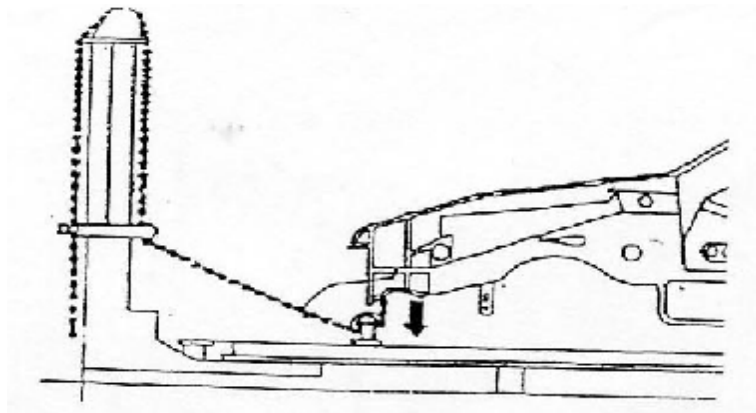

Fig. 12 Pulling Downward
- I When some of the damaged parts need to be pulled downward, change the chain direction via idle wheel as shown in Fig. 12.